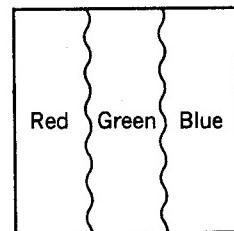

Fig. 3
- (4) Select the PURITY key in the adjustment mode.
- (5) Display the cursor on the center of the screen and turn on the degauss switch of the remote controller.
- (6) Set to green only using the R,G,B keys of the remote controller, and adjust with the ( $\ll$ ,  $\gg$ ) keys so that green is in the center of the screen. (Fig. 3)